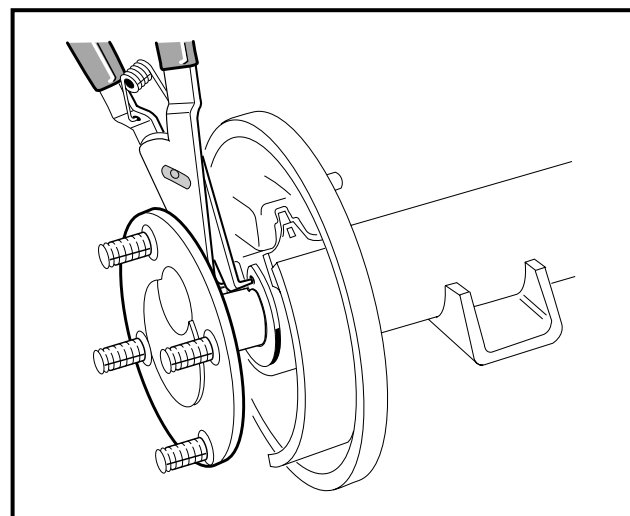

FIGURE 10-85
11.4. Install the right axle shaft (68) in the right axle tube (76) (**Figure 10-6, Page 39**). Using snap ring pliers, install the retaining ring as shown (**Figure 10-85**). See WARNING below.
11.5. Install the left axle shaft (67) in the left axle tube (75) (**Figure 10-6, Page 39**). Using snap ring pliers, install the retaining ring as shown (**Figure 10-85**). See WARNING above.